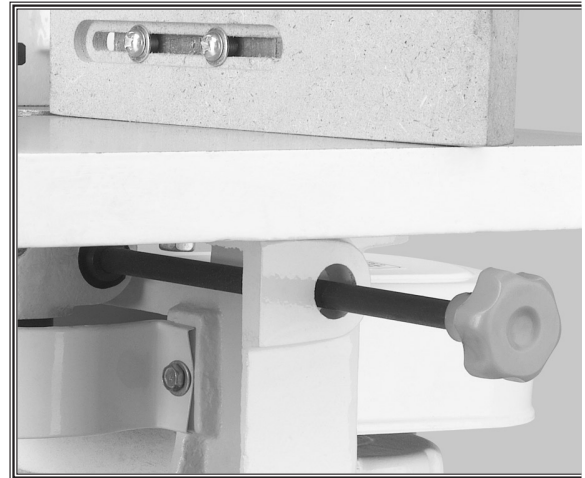

Figure 15. Spindle lock knob.
1. Loosen the spindle lock knob located on the side of the shaper as shown in **Figure 15**.